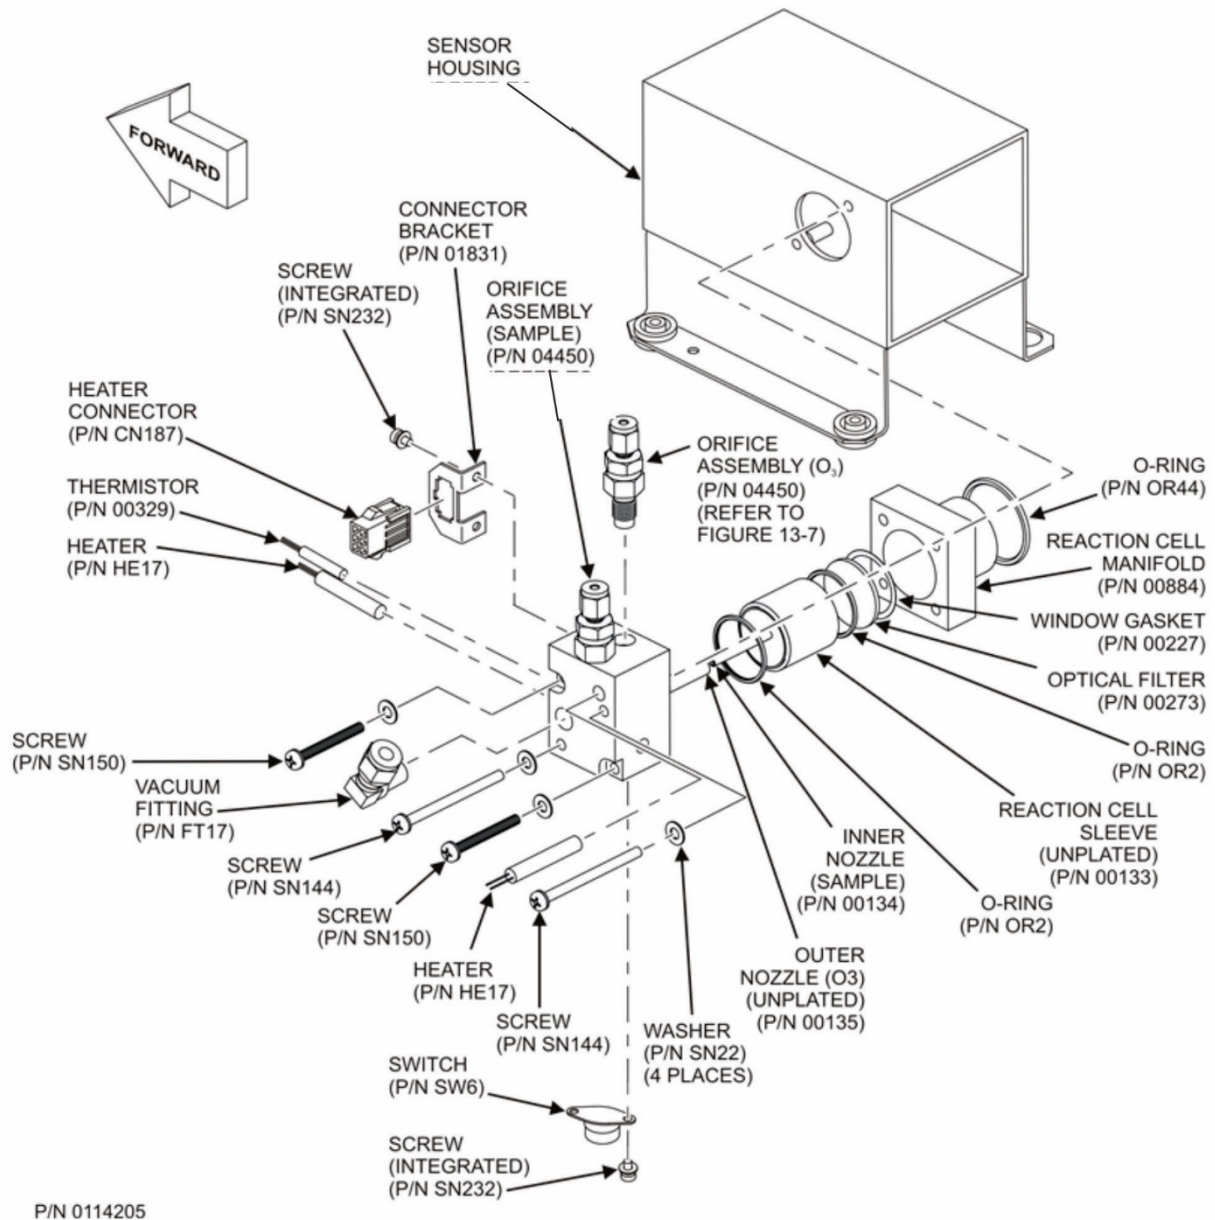

Figure 5-13. Reaction Cell Assembly
To clean the reaction cell, it is necessary to remove it from the sensor housing. Refer to Figure 5-13 for the following procedure.
2. Remove the analyzer cover and locate the reaction cell assembly (refer to Figure 2-4 and Figure 5-13).